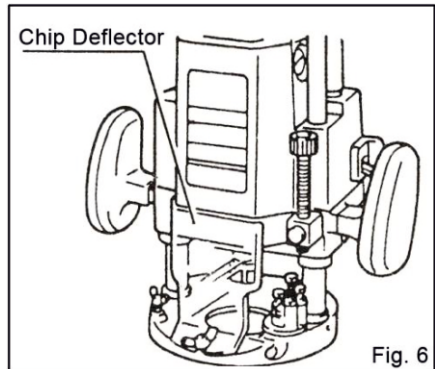

Fig. 6
- Before operation, always make sure that the chip deflector is installed properly. (Fig. 6)